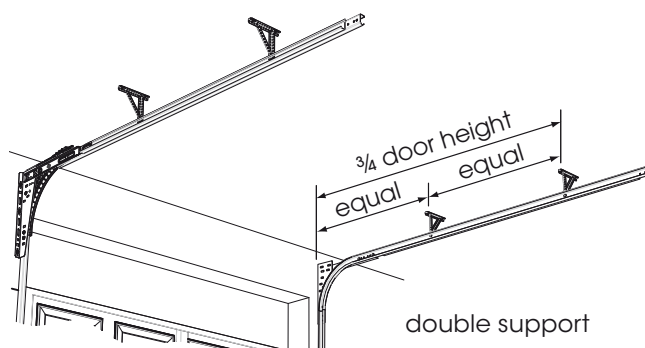

Fig: 3.4.2
- Measure along the horizontal track to the desired position and find a structurally sound location to fix your support to the ceiling or side wall. Fig 3.4.2.